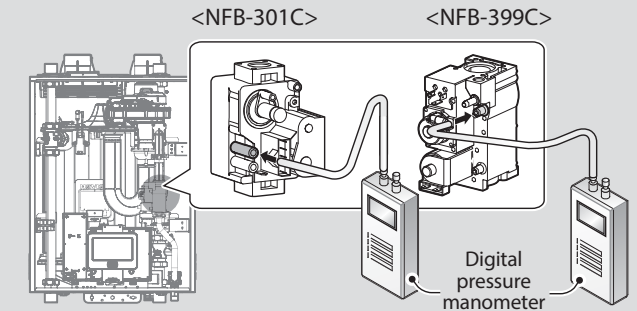

Figure 8. Connect Digital Pressure Manometer
- a. Open the offset pressure port by loosening the screw two turns as shown in Figure 8.